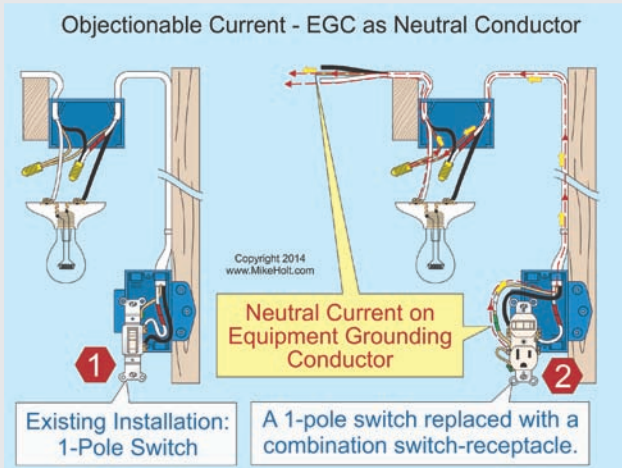

Figure 250-30
- The circuit equipment grounding conductor is used for neutral return current. Figure 250-30